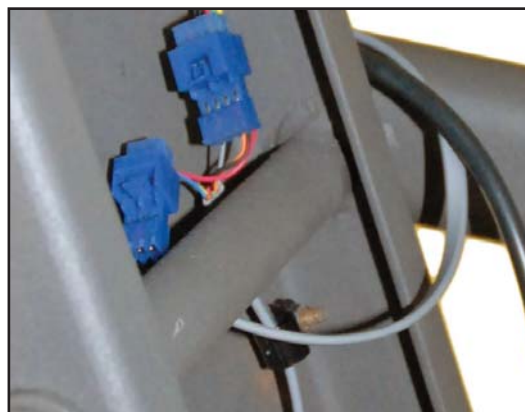

FIGURE 6.70
1. Disconnect the Limit Switch Harness from the Postural Drain Harness. Refer to **Figure 6.70**.